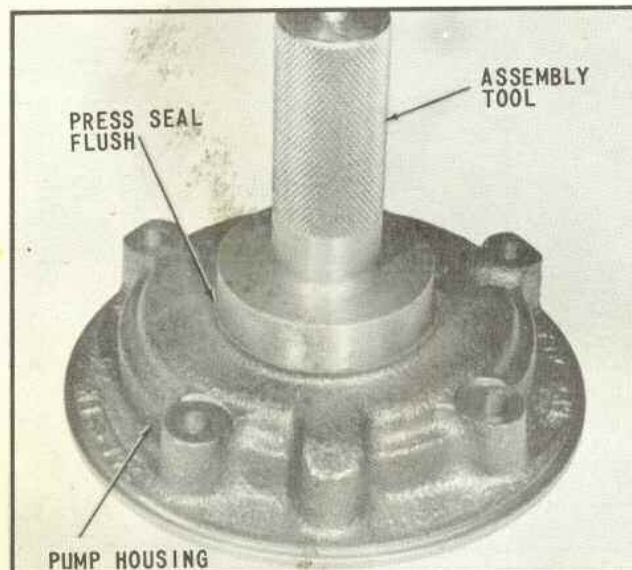

Fig. 64 Pressing Pump Oil Seal into Housing
59. Using an arbor press and suitable tool, press seal into housing until front face of seal is flush with front face of pump housing (Fig. 64).